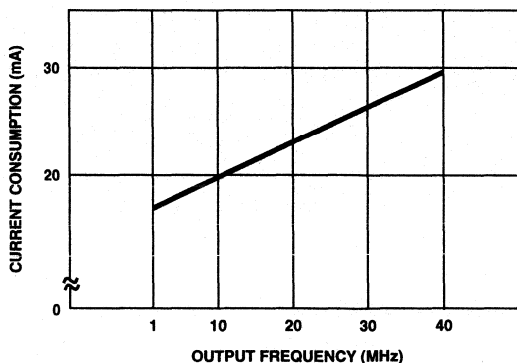

FIGURE 10. OUTPUT FREQUENCY vs CURRENT CONSUMPTION
- Standard Measurement Conditions and Description: V_{DD} = 5.0V, V_{REF} = 2.0V, R = 200Ω, 16R - 3.3kΩ, T_A = 25°C. The temperature characteristics of external input data in Figure 10 = all "0" and "1" of rectangular wave; clock frequency = 80MHz.